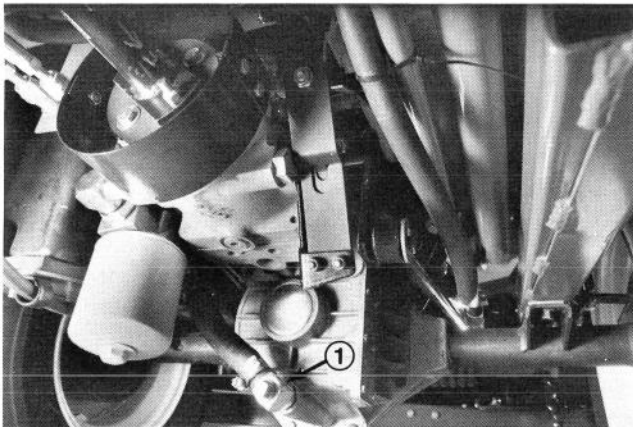
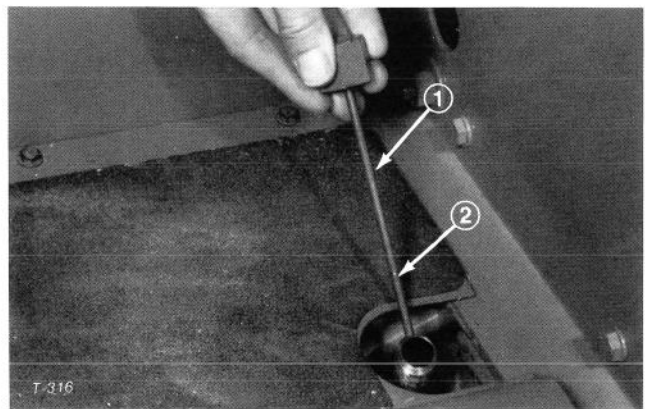

Figure 53
Figure 54
4. Remove drain plug from fitting between axle housing and oil filter and allow oil to flow into drain pan (Fig. 53).
6. Install drain plug in fitting between axle housing and oil filter (Fig. 53).
7. Remove dipstick from axle filler tube (Fig. 54) and fill axle to proper level with correct type and viscosity oil recommended for expected ambient temperature conditions; refer to table above.
9. Leave machine set for two additional minutes, then remove dipstick and check oil level in axle (Fig. 65). If level is low, add oil until level matches groove in dipstick (Fig. 54). If level is too high, remove drain plug (Fig. 53) and drain oil until oil level matches groove in dipstick.